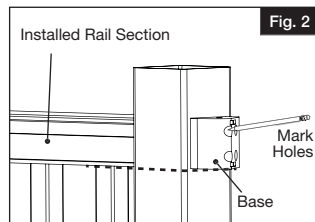

Fig. 2
- b. For 42" high rails, top bracket dovetail will install 37 7/8" from the top of base trim and bottom bracket dovetail will install 1 1/2" from top of base trim (Fig. 2).
- While holding bracket base against post, mark with a pencil the four screw holes for the angled bracket placement on this post (Fig. 2).
Place bottom rail on board and center the routes between posts making sure to leave equal distance from baluster route to post on both top and bottom. Mark the bottom rail using inside edge of posts (Fig. 2).